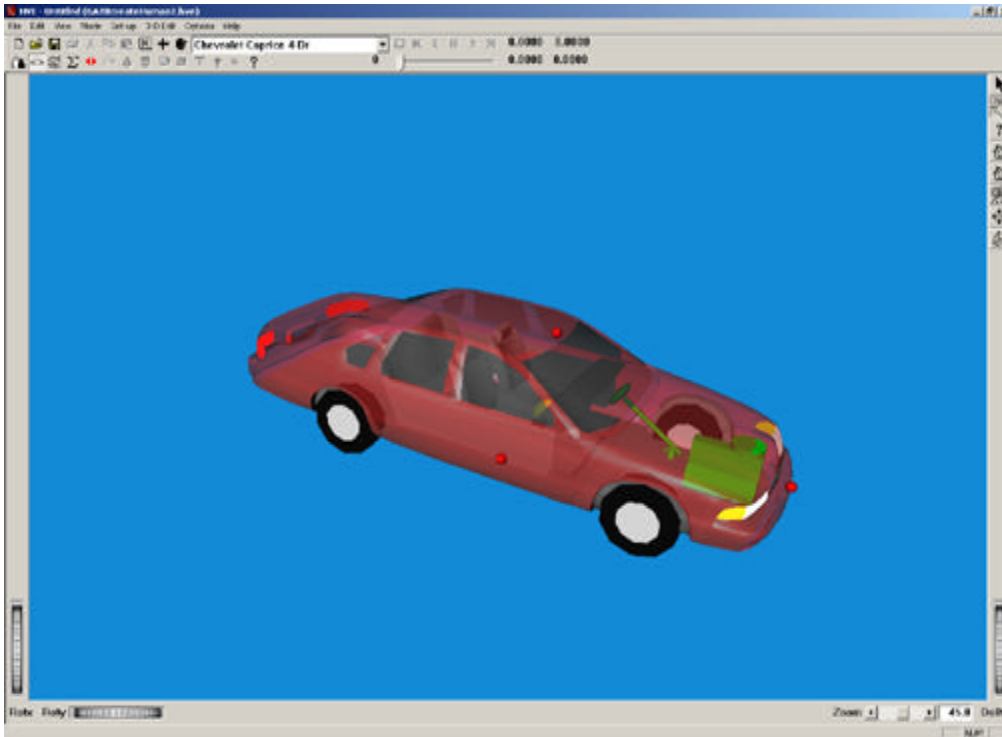

Figure 5-3: View of Chevrolet Caprice
- Manipulate the view in the 3D viewing window to appear similar to that in Figure 5-3.